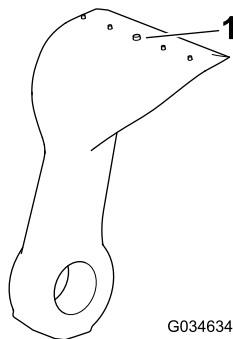

Figure 79
5. Inspect each blade for excessive wear using the wear line (Figure 79). When a blade is worn down to the wear line, replace the blade.